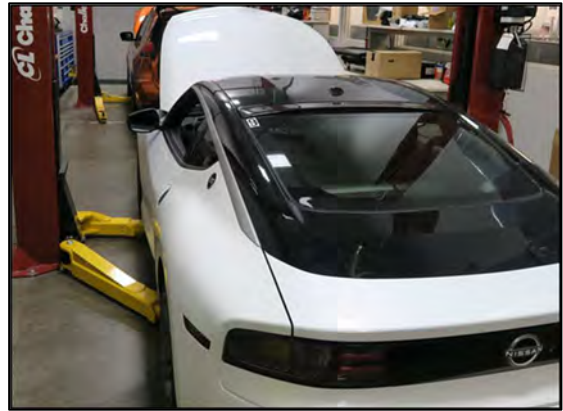

Figure 1
1. Position the vehicle in a stall with a vehicle lift and set the lift arms. (Figure 1)